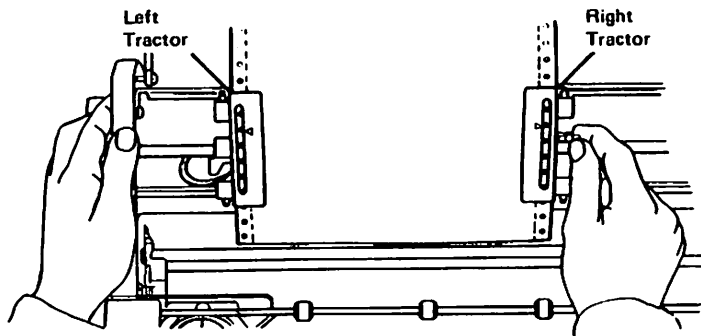

Figure 23 Positioning right tractor
5. Set the right tractor assembly so that the pin-to-pin width between tractors matches the hole-to-hole width of the form (Figure 23).